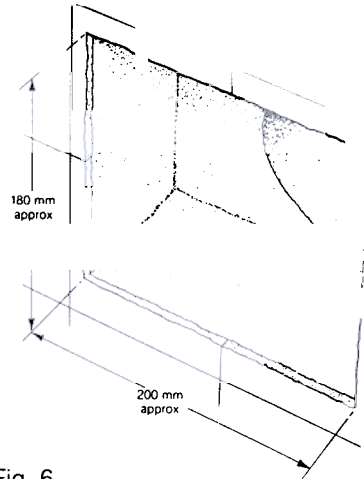

Fig. 6
**6.2** Make an opening in the wall large enough to fit the case and backplate and to take the exhaust to the outside wall. Allow about 10 mm clearance all round the casing and pipe (see Fig. 6).